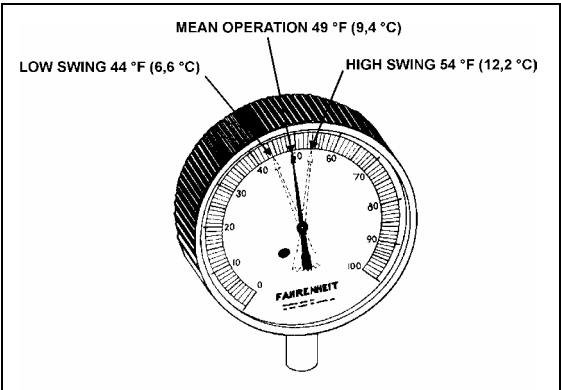

FIGURE 28: HIGH & LOW SWING TEMPERATURE AT REMOTE BULB 22047
6. Check approximately 5 readings of pressure at 2-minute intervals and convert to temperature using the temperature pressure (page 43). Likewise check the temperature reading at the remote bulb at the same 2-minute intervals and record the low and high swing readings of the needle (refer to Fig. 28).